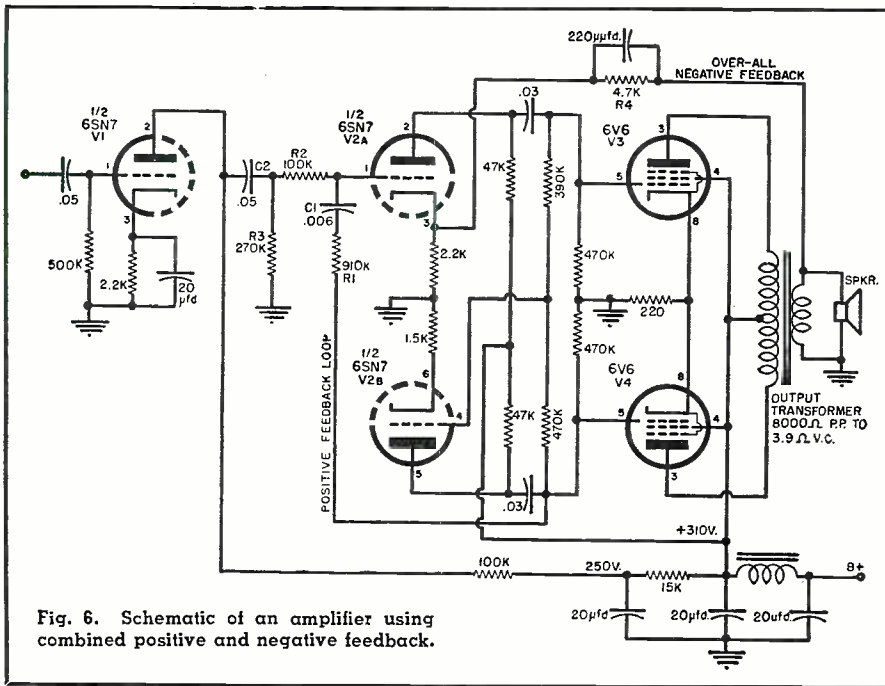

Fig. 6. Schematic of an amplifier using combined positive and negative feedback.
Table 1. Performance data for the amplifier whose schematic is shown in Fig. 6.
The positive feedback can also be included in standard amplifiers in a number of other ways. A typical practical circuit of a complete amplifier using combined positive and negative feedback, which has been built and thoroughly tested, is shown in Fig. 6. Except for the use of the combined feedback, this circuit is quite conventional in design, and may be preceded by any desired low-level amplifier and tone control circuits. It consists of one stage of amplification, a two-stage self-balancing phase inver-
Fig. 7. Frequency response and output voltage regulation of amplifier shown in Fig. 6. (A) Frequency response, .5 watt into a 3.9 ohm loudspeaker. (B) Voltage regulation (in decibels) with a 1 volt output into a 3.9 ohm loudspeaker.